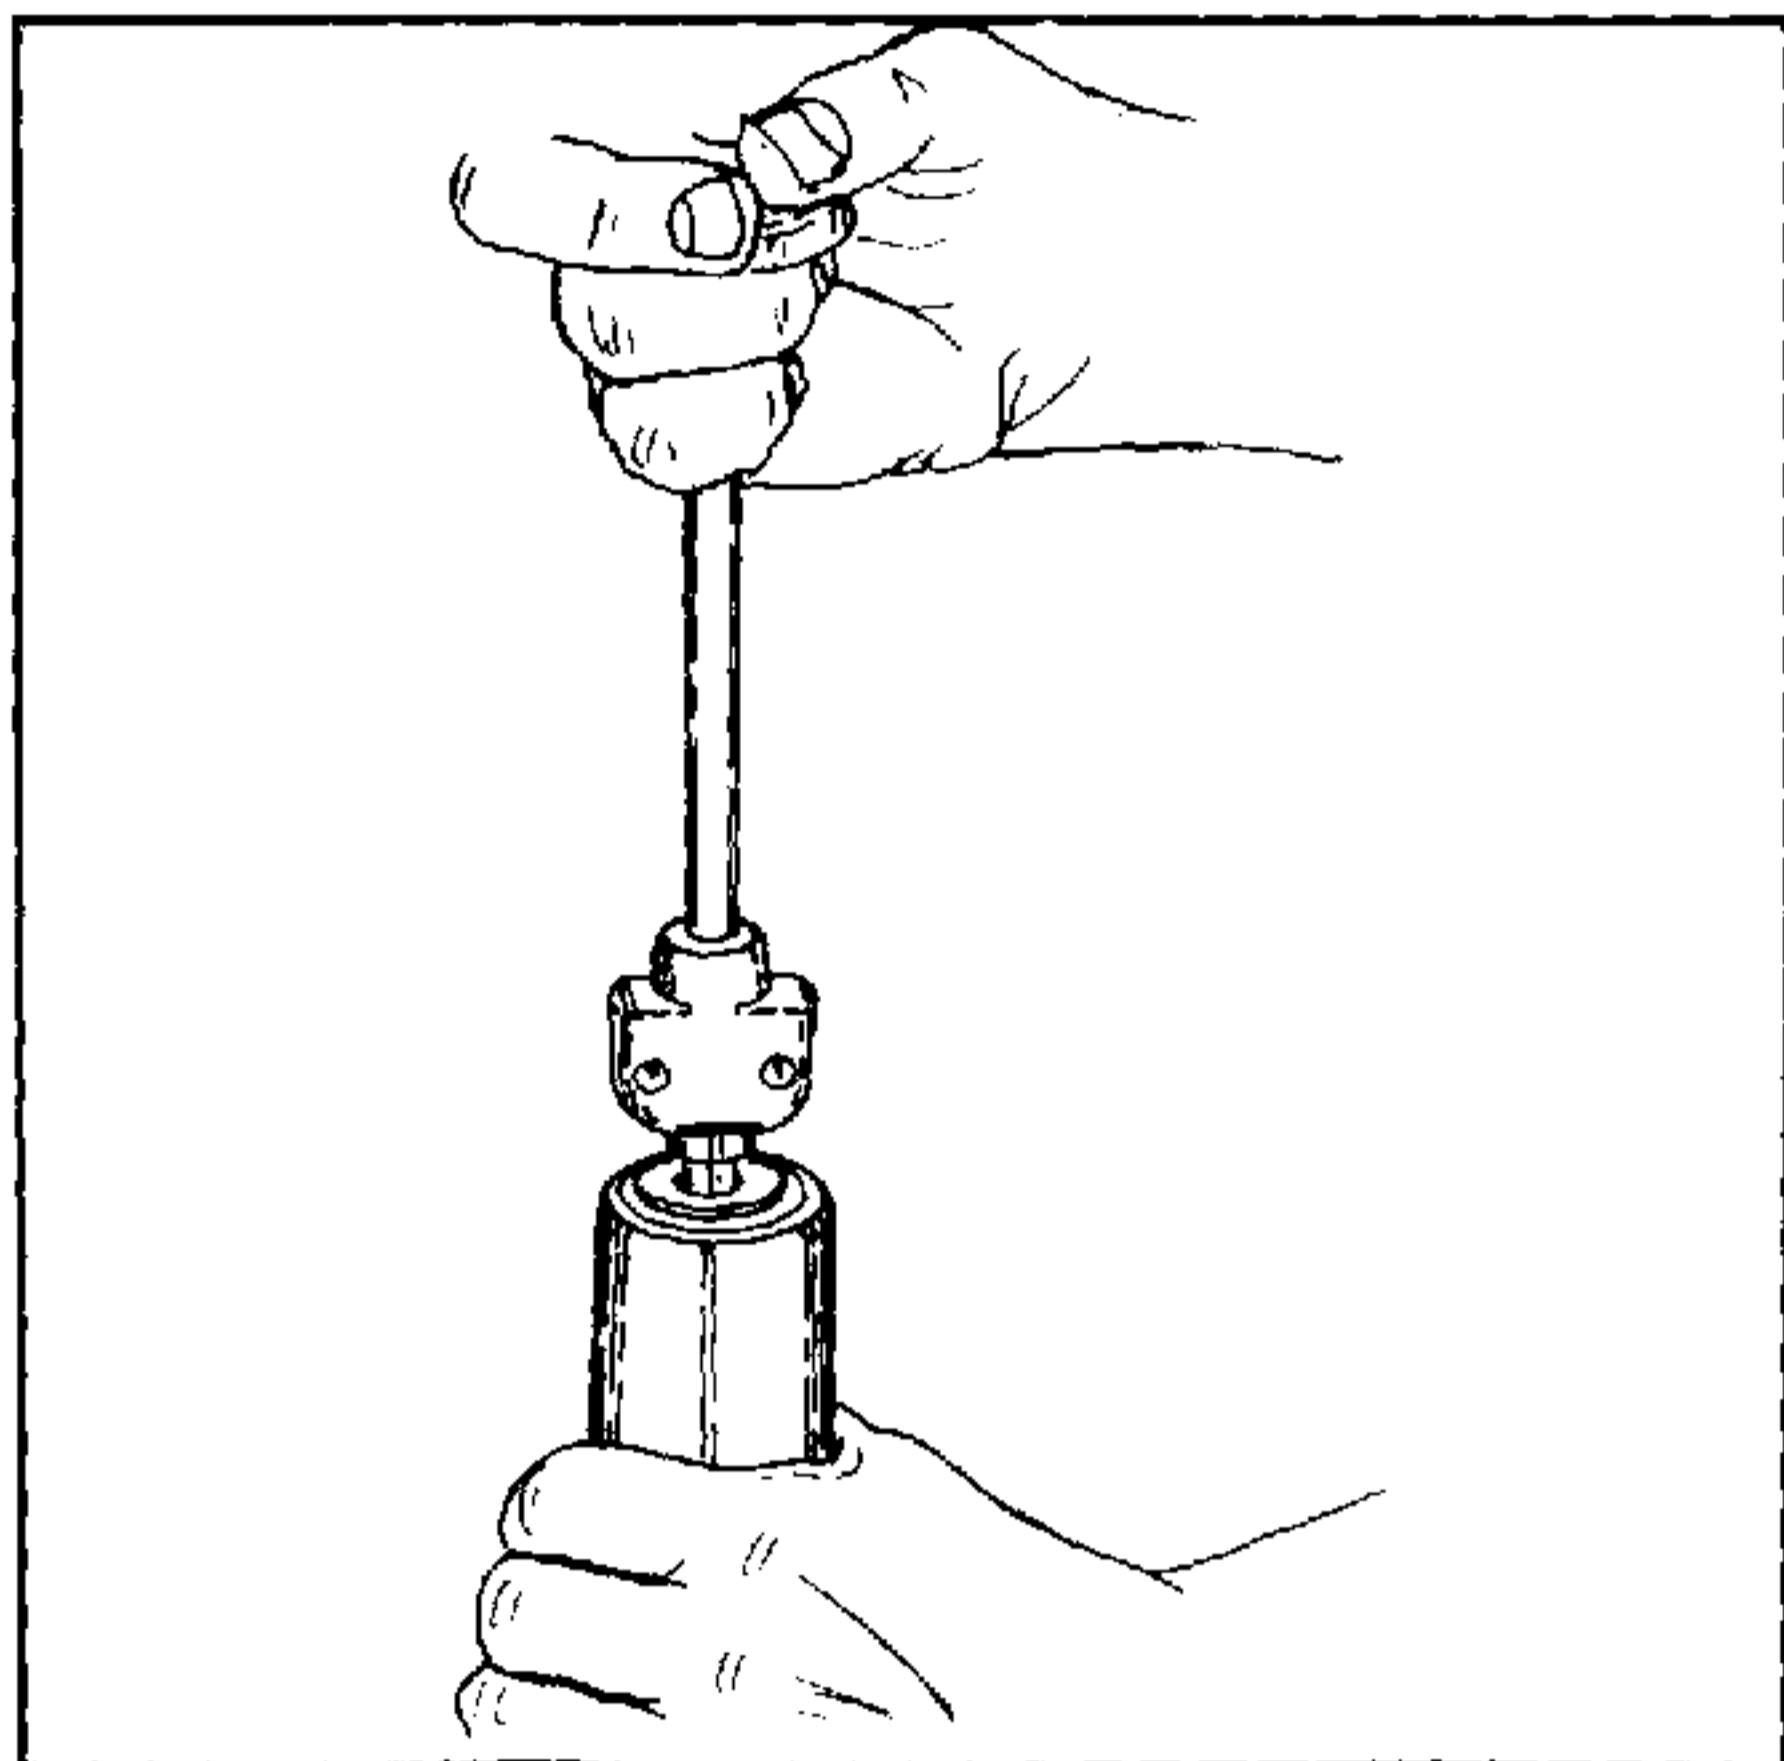
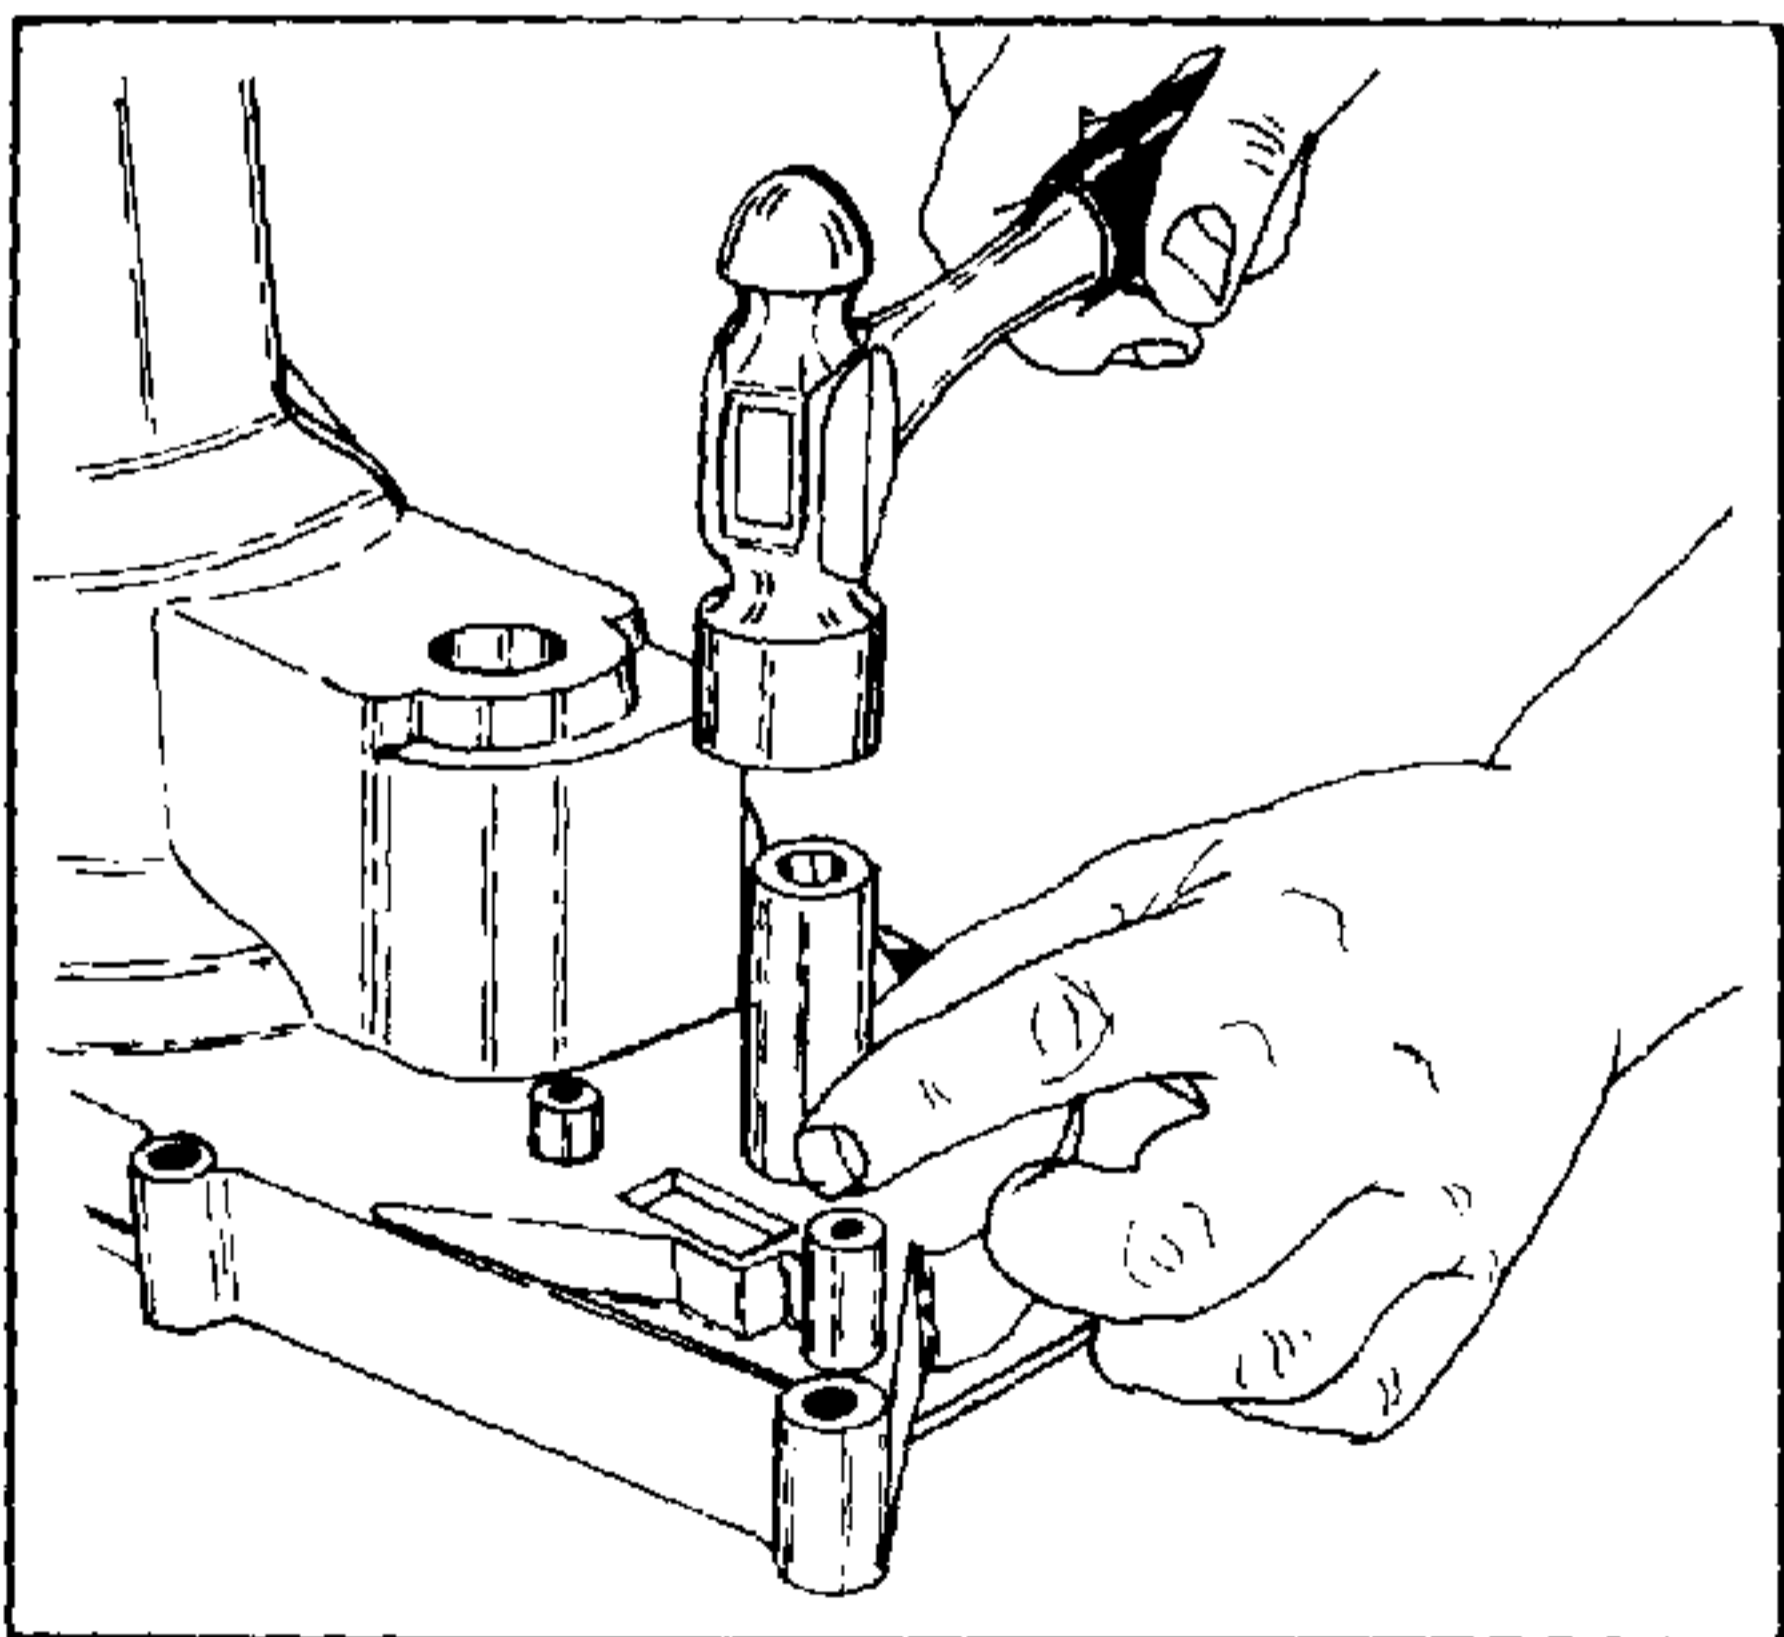

FIGURE 12.
FIGURE 13.
7.20 Remove bearings from damaged housing using an impact puller (figure 12) or tapping bearings out using the correct diameter rod as shown in figure 13.